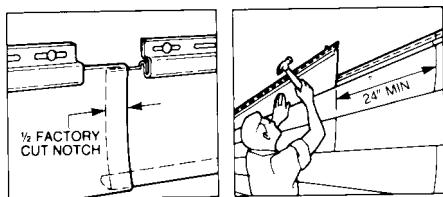

FIG. 13 Lapping Siding Panel
9.3.3 Lap the next panel over the first by one-half of the factory cut notch. (See Fig. 13.) Insert backerboard (if used) and fasten.